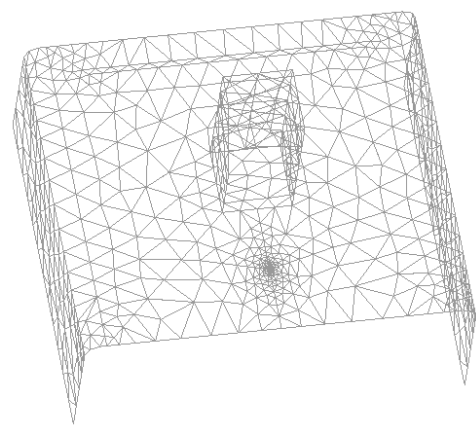

Figure 5. The mesh with a concentration of elements around the point.
- (0.1) of these elements (see Figure 5).